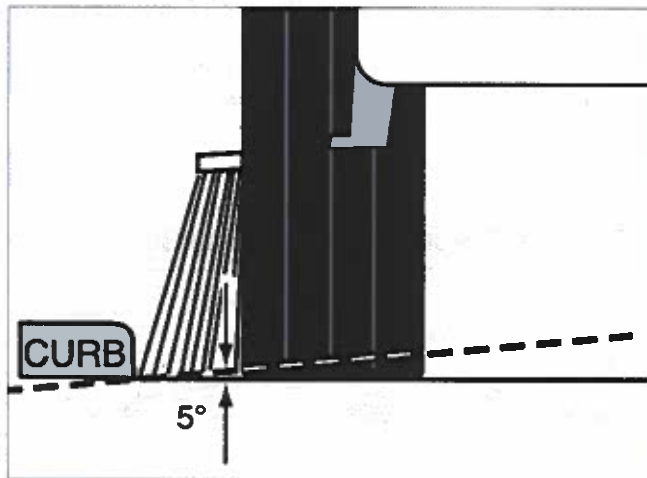

Figure O-3
10. Check side broom tilt with a protractor. The broom should tilt 5° forward and 5° to the outside for best sweeping performance under normal conditions (Figures O-3 and O-4). If the street to be swept is highly crowned, a greater angle may be needed.